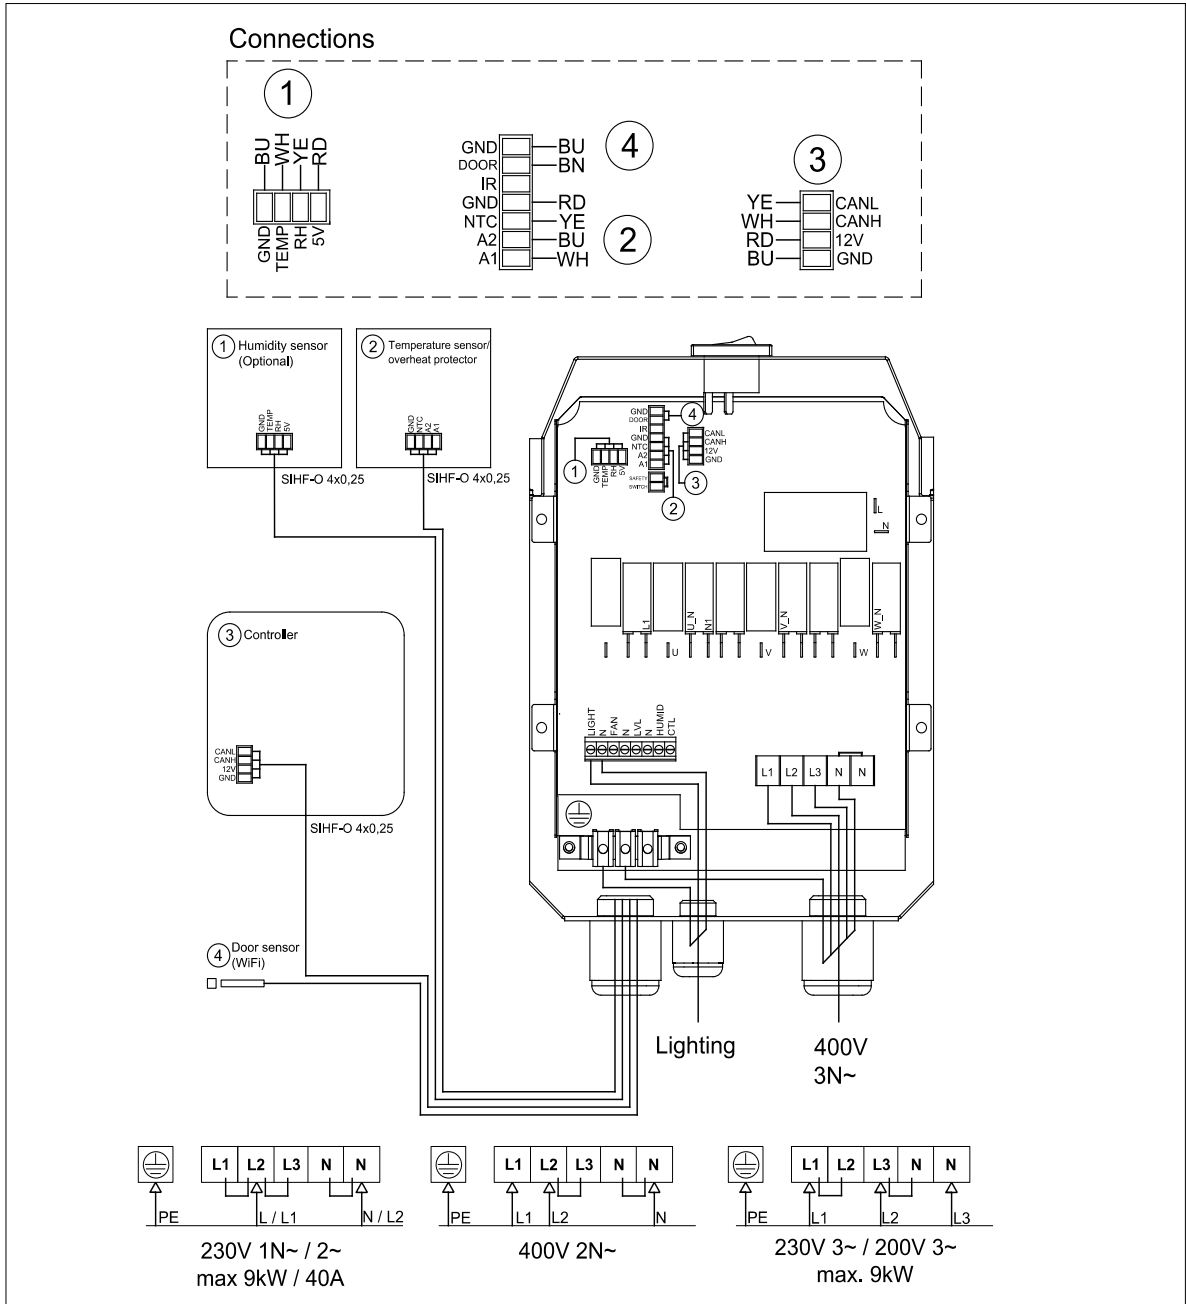

Figure 5.3-1: connection diagram
6. Once the components of the controller have been installed and connected, the power supply cable can be connected to the sauna heater according to the connection diagram (Figure 5.3-1). The power supply cable must be a rubber cable of type H07RN-F or equivalent. The cable cross-section and fuse rating are shown in Table 6.1-2.